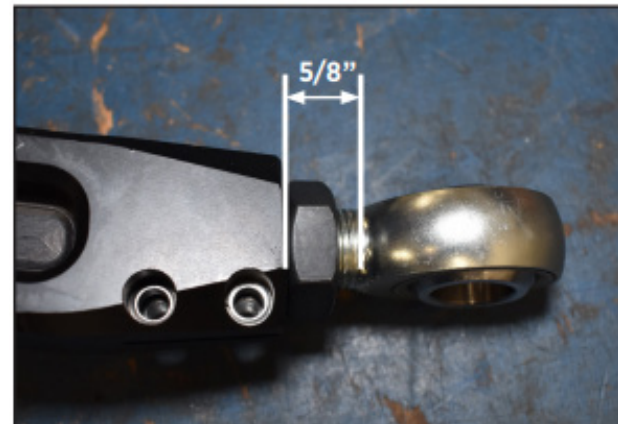

Fig.5: Set rod length.
10. Install heim ends with jam nuts into the FOX UCA until the distance from the UCA end to the end of the exposed threads is 5/8" with the spherical oriented vertically. (Figure 5)